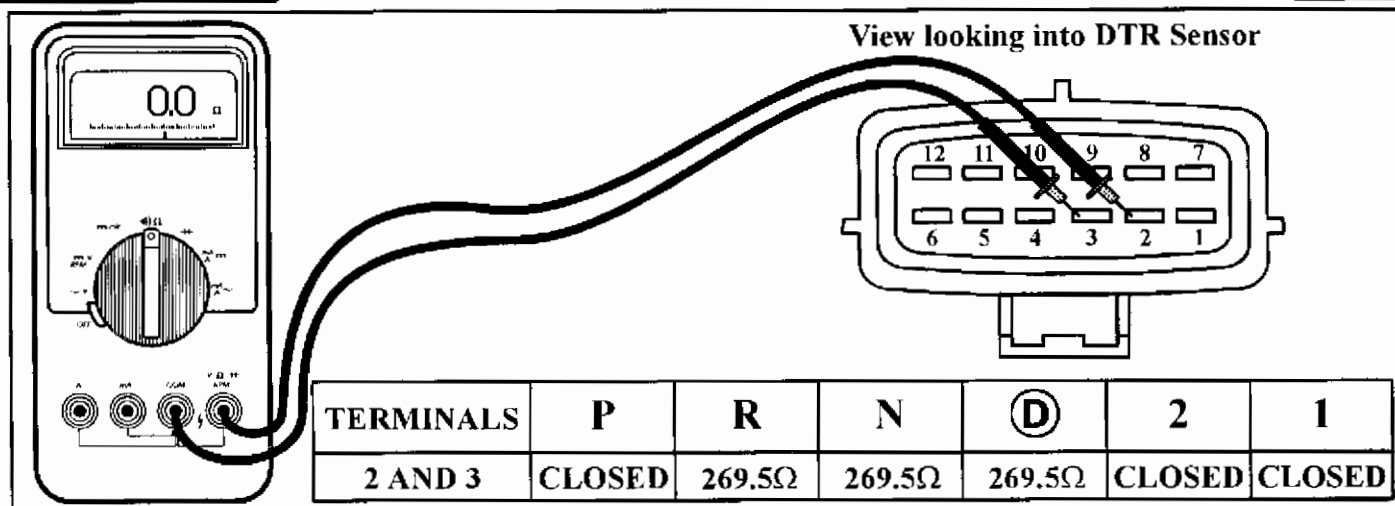

Figure 4
- (1) Testing the transmission range 3A switch, and the 270 Ω internal resistor is done across pins 2 and 3 of the DTR sensor, and must be checked in each selector position to determine the switch and resistor integrity. Refer to Figure 4.